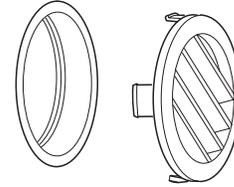

Figure 12. Return Wall Grate
- Install the return wall grate, positioning it to direct flow towards the skimmer (see Figure 12).